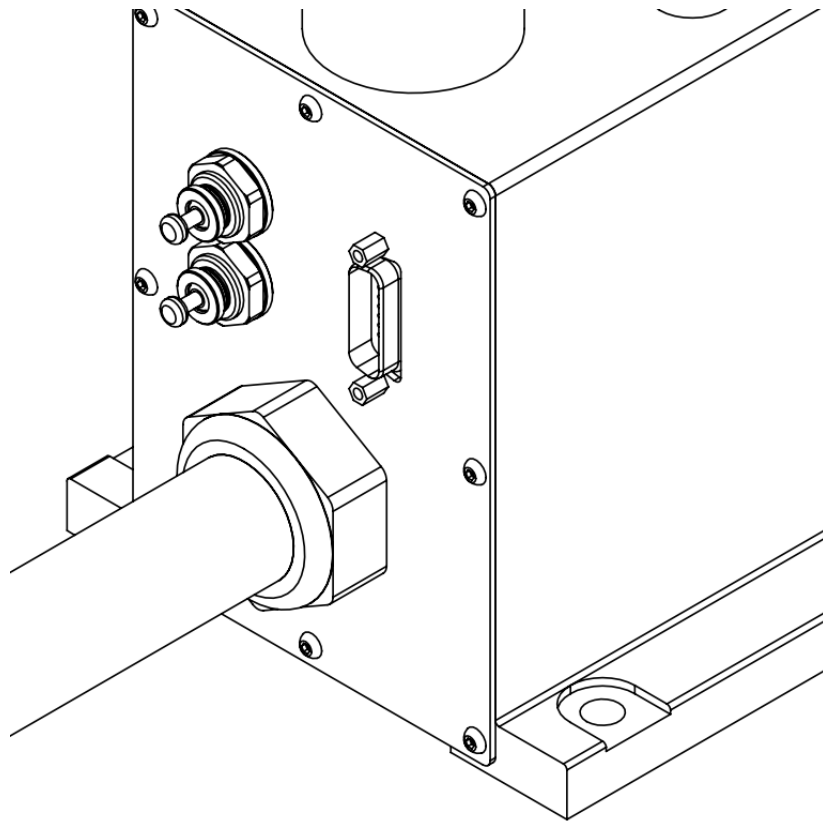

Figure 3-4 The connection interface of the heavy duty cable of the manipulator
Step1. Connect the manipulator. Confirm that the heavy-duty line and the manipulator are well fixed (see Figure 3-4).